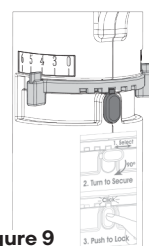

Figure 9
- c. To permanently lock volume prior to the patient being released, push in the Lock Pin toward the device body (See Figure 9).